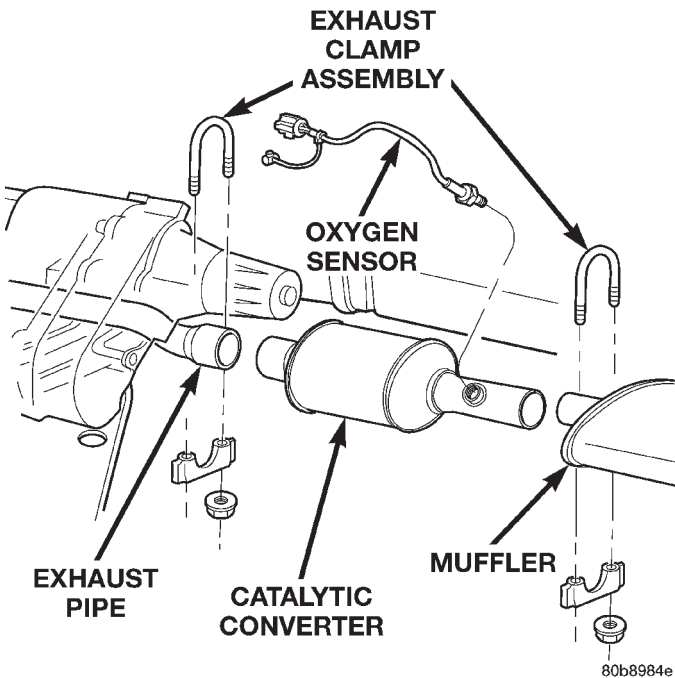

Fig. 4 Catalytic Converter to Muffler and Exhaust Pipe Connection
- (1) Raise and support the vehicle.
- (2) Remove the clamps from the catalytic converter and muffler connection (Fig. 4).
- (3) Disconnect and remove the oxygen sensor from the catalytic converter.
- (4) Heat the catalytic converter and muffler connection with an oxyacetylene torch until the metal becomes cherry red.
- (5) While the metal is still cherry red, twist the muffler assembly back and forth to separate it from the catalytic converter.
- (6) Disconnect the exhaust pipe from the catalytic converter (Fig. 4). If needed, heat up the pipes to separate.
- (1) Connect the catalytic converter to the exhaust pipe and the muffler/tailpipe assy. (Fig. 4). Use a new clamp and tighten the nuts to 61 N·m (45 ft. lbs.) torque.
- (2) Install the muffler onto the catalytic converter until the alignment tab is inserted into the alignment slot.
(3) Install a new clamp at the muffler and catalytic converter connection (Fig. 4). Tighten the clamp nut to 61 N·m (45 ft. lbs.) torque.
(4) Coat the oxygen sensor with anti-seize compound. Install the sensor and tighten the nut to 27 N·m (20 ft. lbs.) torque.
(5) Lower the vehicle.
(6) Start the engine and inspect for exhaust leaks and exhaust system contact with the body panels. Adjust the alignment, if needed.